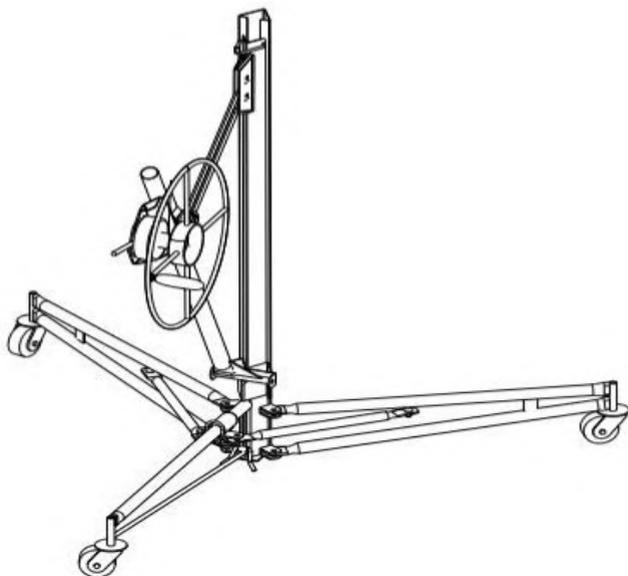

Figure 22
- Once the wheel is attached to the main assembly, it should look as shown in Fig. 22.